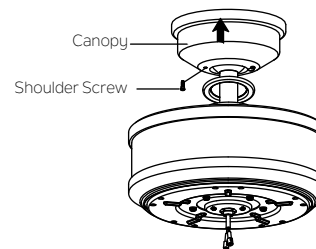

Fig. 15
Step 2. Assemble canopy by rotating key slot in canopy over shoulder screw in mounting bracket. Tighten shoulder screw. Fully assemble and tighten second shoulder screw that was previously removed. (Fig. 15)